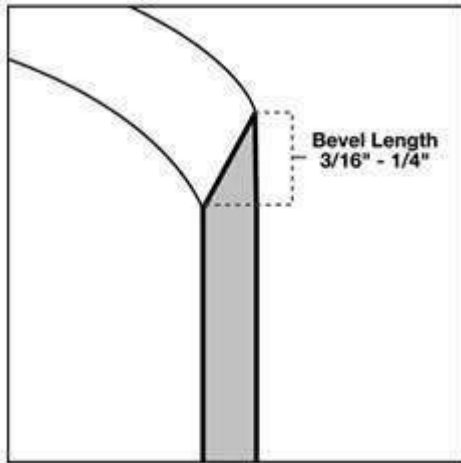

Figure 1c
**Correct Bevel Selection:** Knife bevels vary according to length and type. Bevel length is defined as the distance from the tip to the end of the honed surface. When cutting Celtec, the length of the bevel should be between 3/16" and 1/4" (Figure 1c).